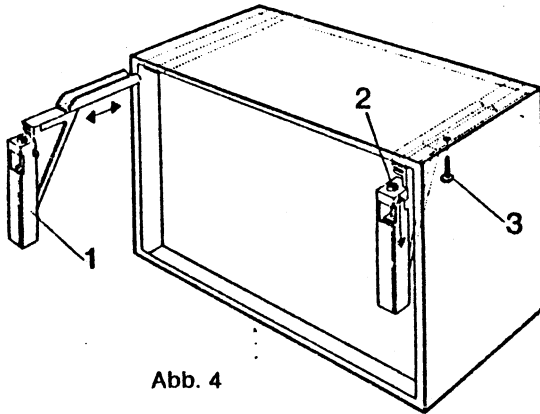

Abb. 4
2. Insert the dowel pins and screw in the threaded hooks so that the brackets can just be fitted (fig. 4/1).
3. Any gap between bottom edge of cooker hood and wall is compensated by means of the enclosed plastic panel. Screw this panel to the bottom rear edge of the cooker hood by means of the 4 sheet screws (self tapping screws) provided. The 2 screws on the far left and right are tightened only slightly. Make sure that the panel points upwards when the cooker hood is mounted (Fig. 4 a).
4. Having removed the filter, insert the brackets from the rear into the cooker hood (see fig. 4) and secure lightly from inside.
6. By operating the adjusting screws of the brackets (fig. 4/2), you can now adjust the cooker hood up to 10 mm up or down as well as levelling the rear edge of the hood.
Abb. 4 a